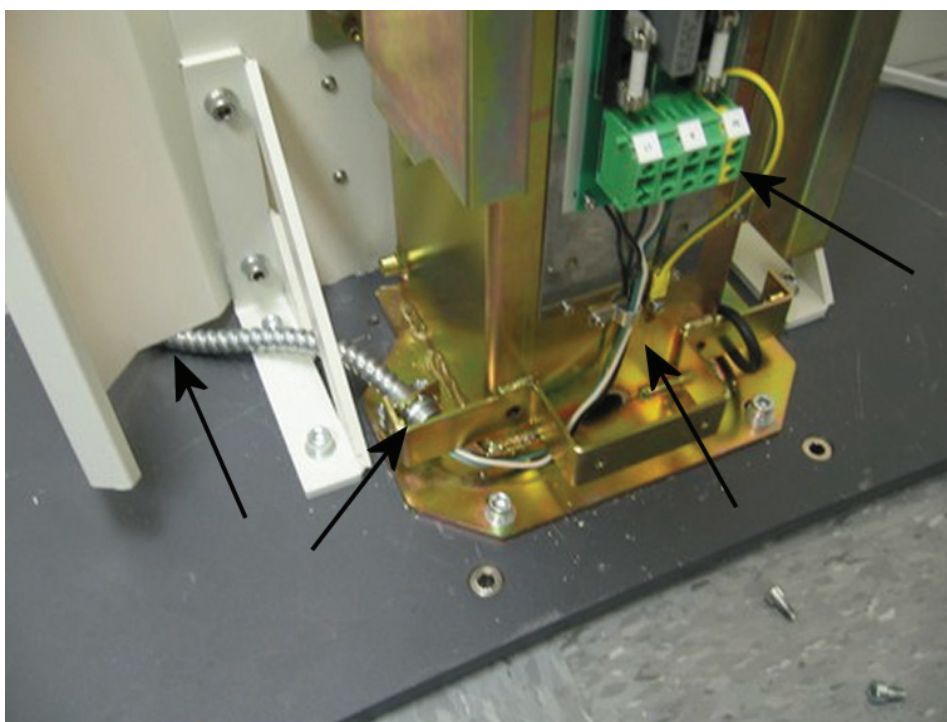

Figure 1: Column side cover (w/ indicated hole position), conduit clamp, strain relief, terminal strip
1. Create an opening for AC service to the equipment in the angled section of the left column side cover at the base of the column (see Figure 1). Size the opening in accordance with the type and size of the AC service being provided (e.g. metal conduit)
5. Terminate the conductors in the terminal strip and strain relief using the cable clamp located below the terminal strip (see Figure 1 for location of terminal strip and cable clamp).